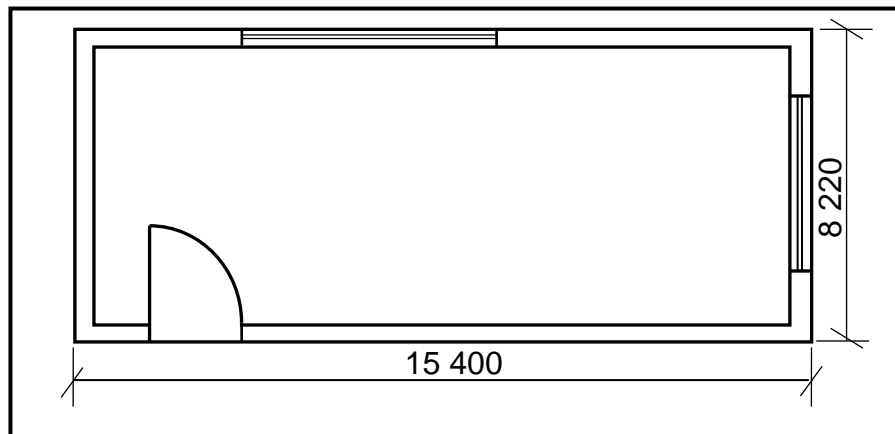

FIGURE 6.5
6.5 FIGURE 6.5 below shows the floor plan of a large storage room.